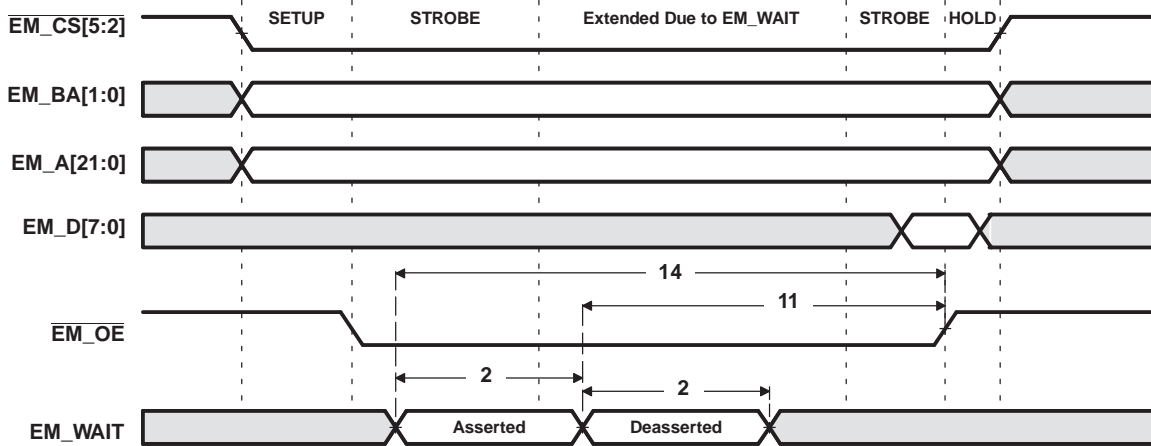
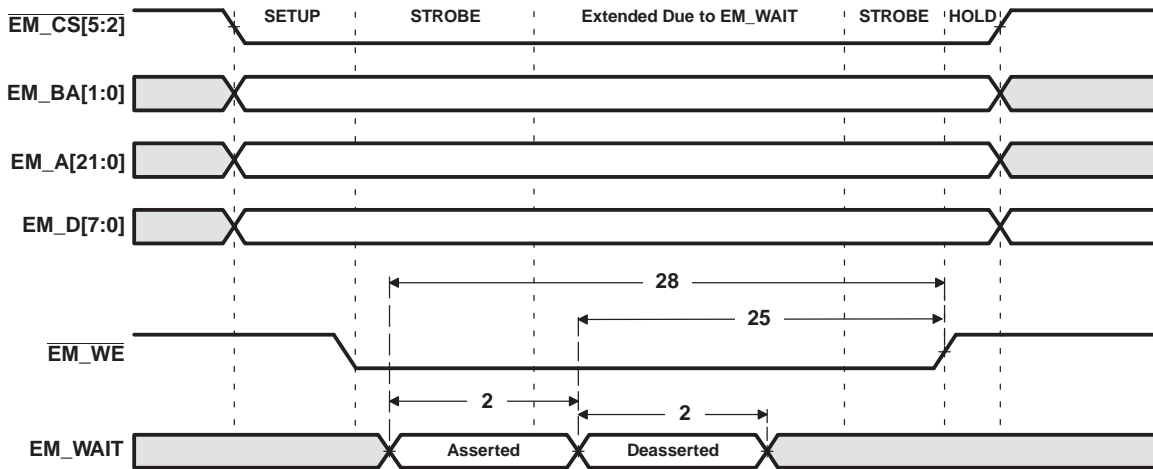

Figure 6-16. EM_WAIT Read Timing Requirements
Figure 6-17. EM_WAIT Write Timing Requirements
(1) E = SYSCLK3 period in ns for EMIFA. For example, when running the DSP CPU at 300 MHz, use E = 20 ns.
(2) Setup before end of STROBE phase (if no extended wait states are inserted) by which EM_WAIT must be asserted to add extended wait states. Figure 6-16 and Figure 6-17 describe EMIF transactions that include extended wait states inserted during the STROBE phase. However, cycles inserted as part of this extended wait period should not be counted; the 4E requirement is to the start of where the HOLD phase would begin if there were no extended wait cycles.